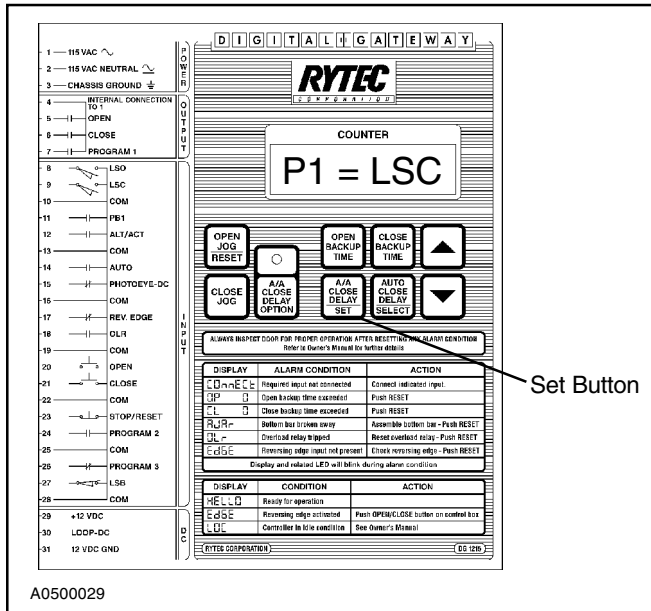

Figure 21
- After you find the program you wish to change, press the Set button to enter the sub-menu for that particular program. Each sub-menu will be identified by the program number and an option code. Figure 21 shows the default setting (Door Not Closed) for Program 1.